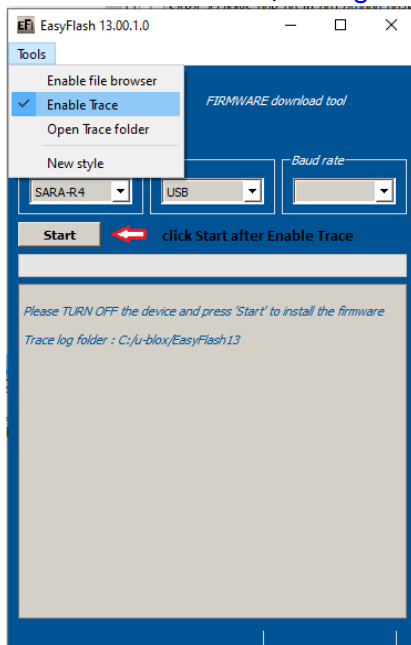

Figure 7: Setting up EasyFlash and starting the FW installation
4. Select in pull down (see Figure 7)
5. "Enable trace" from main menu (see Figure 7). This will create a log per flash attempt. It is useful if something goes wrong, and it is needed to report the issue.
6. Click "Start" button (see Figure 7).